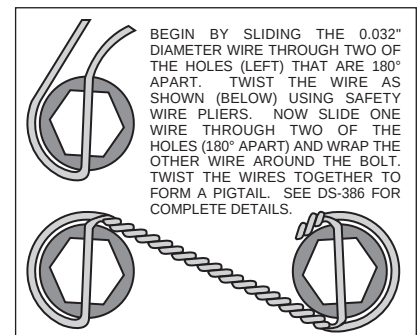

Figure 3. Safety Wire Diagram
- Identify the left and right caliper mounting brackets (1). Both brackets will be offset to the rear of the vehicle with the threaded inserts and the beveled bolt holes facing the outside of the vehicle. Apply red *Loctite*® 271 to bolt threads (2 and 5) before assembly of the caliper bracket (1) to backing plate face of spindle. Insert the two upper mounting bolts (2) and the lower mounting bolt (5) through the caliper mounting bracket (1). Place one upper mounting bracket spacer (3) over each of the upper mounting bolts (2). Slide a lower mounting bracket spacer (6) over the lower mounting bolt (5). Position the caliper mounting bracket (1) onto the spindle, slipping each of the three mounting bolts (2 and 5) through the spindle holes. The lower ball joint may have moved when the original bolts were removed. Re-alignment may be necessary for the lower bolt (5) to slide through. Install two jam nuts (4) on the upper mounting bolts (2) and finger tighten. Install one lock nut (7) on the lower mounting bolt (5) and finger tighten. Torque two bolts (2) to 47 ft-lb. Torque bolt (5) to 65 ft-lb. **NOTE:** Be sure the heads of the caliper bracket (1) insert nuts are facing outward toward the wheel.
- Install five new wheel studs (8) into the hub (9). Torque to 77 ft-lb. **NOTE:** There are two five lug patterns in the hub (5 x 4.00 and 5 x 4.50). Make sure of the correct hole pattern for the correct wheel application before installing studs into hub.
- Pack the large inner bearing cone (10) with high temperature disc brake bearing grease (available from your local auto parts store) and install into the backside of the hub (9). Install the grease seal (11) by pressing into the backside of the hub (9).
- Attach rotor adapter (12) to rotor (13) using six bolts (14). Torque bolts (14) to 180 in-lb. Safety wire bolts (14) using standard 0.032 inch diameter stainless steel safety wire as shown in Figure 3. Please refer to Wilwood's data sheet DS-386 (available at www.wilwood.com/pdf/ds386.pdf) for complete safety wire installation instructions. **NOTE:** The flat side of the rotor (13) lugs face toward the rotor adapter (12) with the dished side of the rotor adapter (12) facing away from the rotor (13).
- Mount the adapter/rotor assembly (12 and 13) to the hub (9) using five bolts (15). Torque bolts (15) to 22 ft-lb. Safety wire bolts (15).
- Pack the small outer bearing cone (16) with high temperature disc brake bearing grease. Lightly coat the spindle bearing surfaces with bearing grease. Slide the hub/rotor assembly (9 and 13) with outer bearing cone (17) onto the spindle. Secure using existing spindle washer, existing adjusting nut and nut locking device.